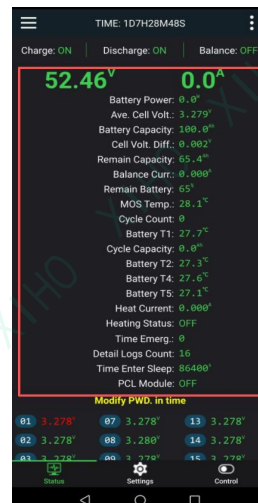

Figure 4 Real time
d). Monitoring interface displays: SOC, voltage, current, and temperature, as shown in Figures 4 and 5.
监控界面显示：SOC/电压/电流/温度，如图4和5所示。